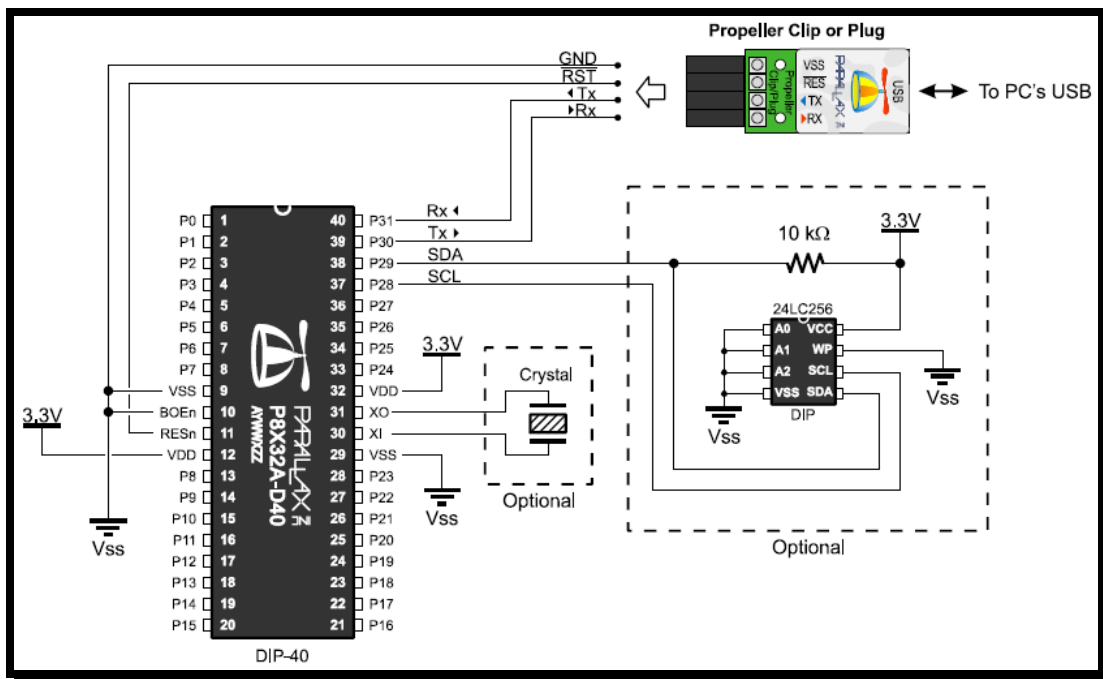

Figure 1: Propeller Programming Setup (Propeller Data Sheet page 5)
Figure 1 is taken from page 5 in the Propeller Data Sheet and it shows the connection the Propeller Tool (programming IDE) assumes in order to program the propeller.
- 2- RB will reset the propeller when it establishes control over the com port. This occurs because as you can see from Figure 1, the Reset button of the propeller is connected to the Prop Plug reset pin. This pin is actually the DTR pin on the Com port from the PC. This pin will be driven low momentarily by RB when it establishes control over the port. However, this will cause the propeller to reset too.